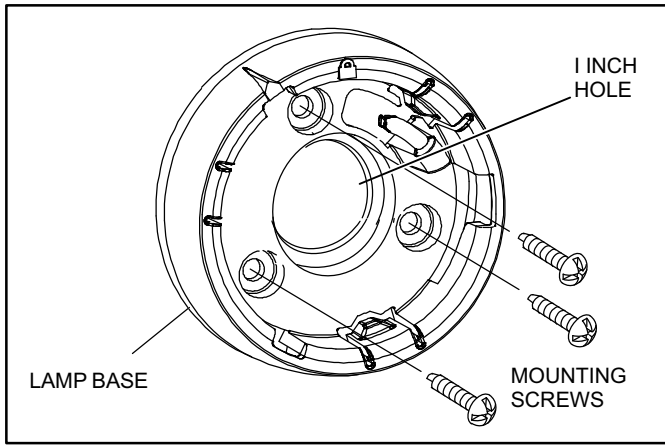

**Figure 6. Install the Shielding Baffle**
2. **Skip this step if no shielding baffle is required.** When using a shielding baffle (X9900 or Y2120), it must be installed in the 1" hole prior to continuing this procedure. See the procedure described in figure 6.
2. **Skip this step if no shielding baffle is required.** When using a shielding baffle, it must be installed in the 1" hole prior to continuing this procedure. See the procedure described in figure 6.
Install the lamp shielding baffle when installing light above a non-UVC resistant component, such as a filter. Adjust the baffle to ensure the component is not subject to direct UVC light. Install the shielding baffle (ordered separately) as shown in figure 6, noting the following:
Shielding baffle has been installed to protect filter or other non-UVC resistant components (see figure 6).